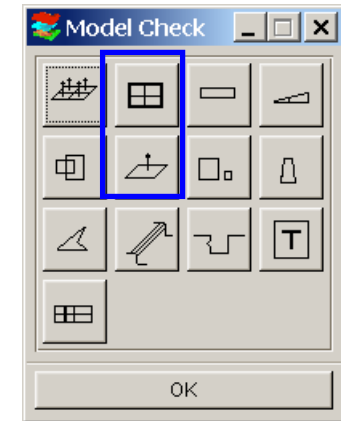

Figure 2.4
- Select **MODEL CHECK** (See Figure 2.4)